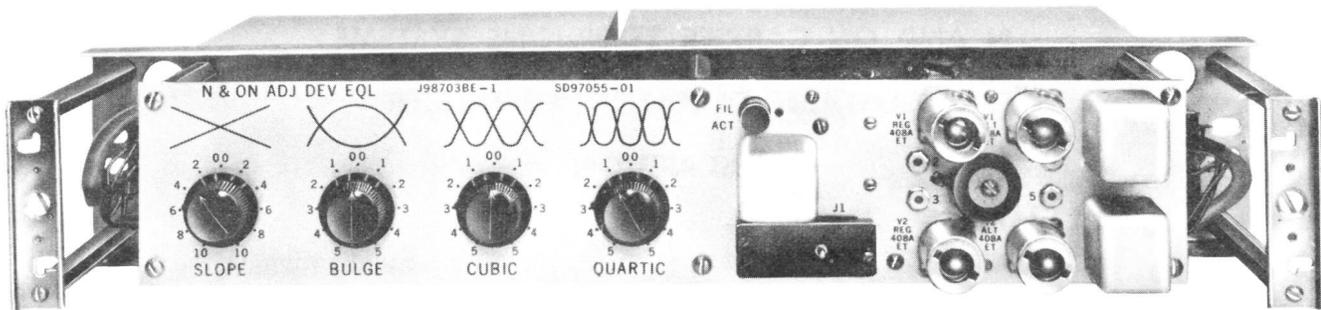

Fig. 1 — J98703BE Adjustable Deviation Equalizer
**2.01** The adjustable deviation equalizer is mounted in a 19-inch channel- or duct-type bay framework at powered repeater sites. The unit contains two hermetically sealed equalization networks, which are controlled by four panel-mounted potentiometers, and a two-stage vacuum tube amplifier. The potentiometers are labeled SLOPE, BULGE, CUBIC and QUARTIC. The equalization networks are mounted at the back of the chassis; pigtail mounted components associated with the amplifier are mounted in miniplas assemblies behind the front panel. Control knobs, vacuum tubes, transformers, test points, and a filament activity test switch are mounted on the face of the panel. The chassis is constructed of aluminum, approximately 3-1/2 inches high and 19 inches wide. Two covers are available for the equalizer: J98703BE, List 2 provides a cover for use when the equalizer is mounted in a duct-type bay and J98703BE, List 3 provides a cover for use in a channel-type bay. The cover prevents excessive crosstalk when two equalizers are mounted in the same bay. A photograph of the equalizer is shown in Fig. 1.